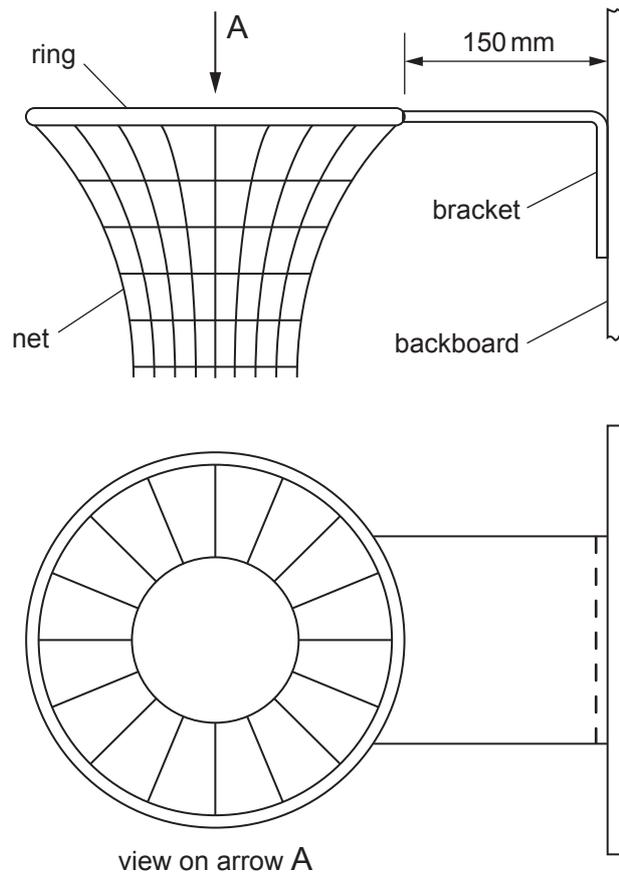

Fig. 12
- 10 A basketball net used in a school gym is to be fitted to a wooden backboard as shown in Fig. 12.
- (b) State a method of joining the different parts shown in Fig. 12. Indicate whether the method is permanent or semi-permanent.
(c) When in use it was found that the design as shown in **Fig. 12** needed to be strengthened.